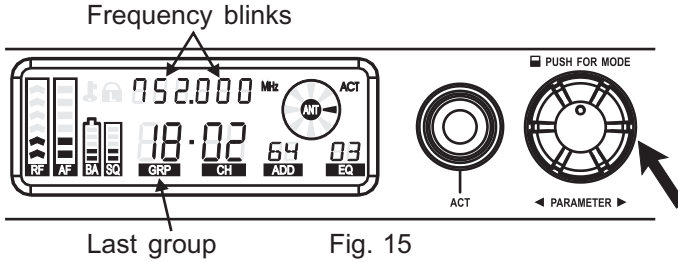

Fig. 15
- (1) Press knob to CH cursor. CH cursor blinks to denote it is ready to accept parameter changes.
- (2) Turn knob right to increase or left to decrease a CH number.
- (3) After changing a parameter, press the knob to save the value. CH cursor stops blinking.
- (4) When SQ is set as the highest level, the frequency can be selected forcibly regardless the level of external interferences.
- (5) Group 16 is last group and can be user-defined. Group 16 enables the user to select and save up to 16 frequencies, Fig. 15: